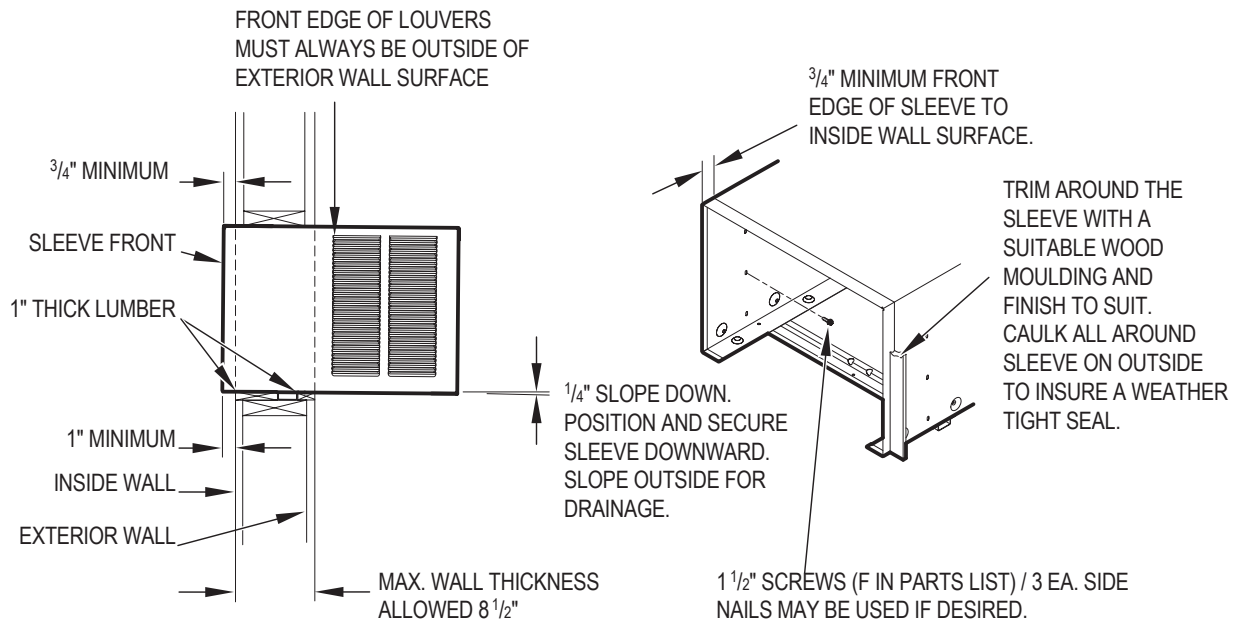

Figure C.5.4
STEP 5 Position the front edge to extend into the room $\frac{3}{4}$ " minimum at top of sleeve and 1" minimum at bottom (Figure C.5.4).
STEP 7 Cut two pieces of standard 1" lumber (supplied by installer) to the length and width required. Place in front and back of bottom sill channel as shown in Figure C.5.4. Secure with nails (supplied by installer).